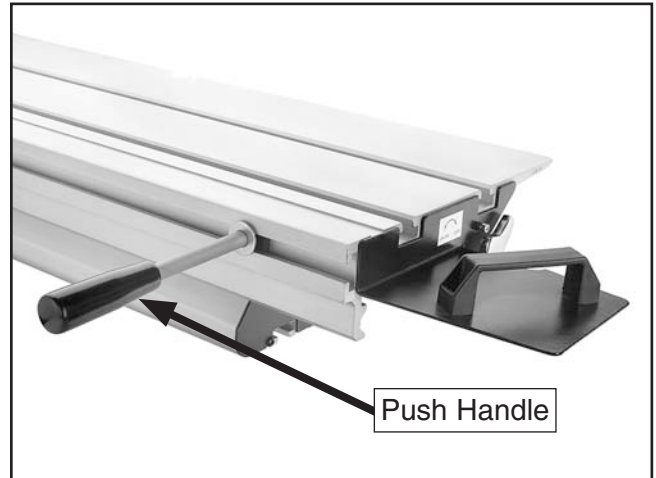

Figure 27. Sliding table push handle installed.
25. Install the sliding table push handle into the front T-slot with a 12mm flat washer, 12mm nylon flat washer, and a M12-1.75 T-nut, as shown in **Figure 27**.